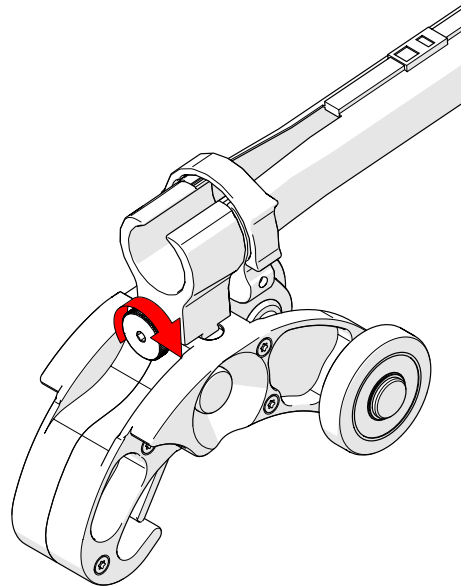

Fig. 149 - Tighten knob
2. Once centred on the heavy duty dovetail QuickLink, tighten the cable management's dovetail mount knob (Fig. 149).